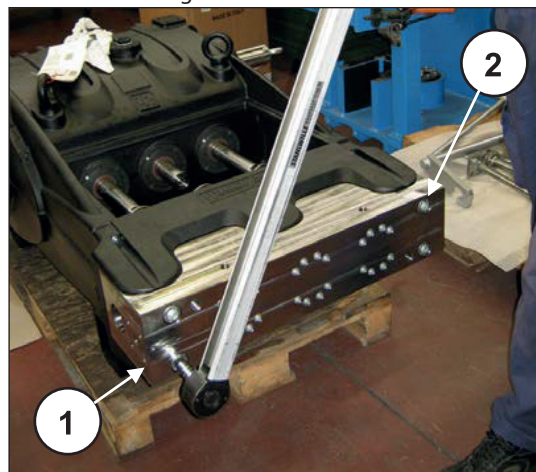
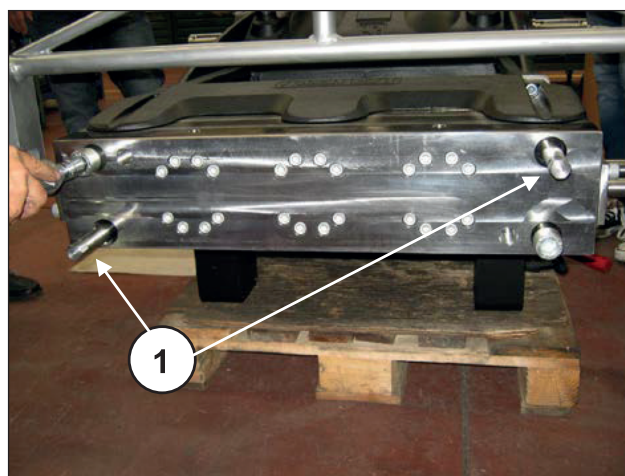

Fig. 167
Fig. 168
Unscrew the two diametrically opposed M24 head fixing screws (pos. ① and ②, Fig. 167) and replace them with two service screw-pins (code 27807000) (pos. ①, Fig. 168), then take out the remaining 2 screws.